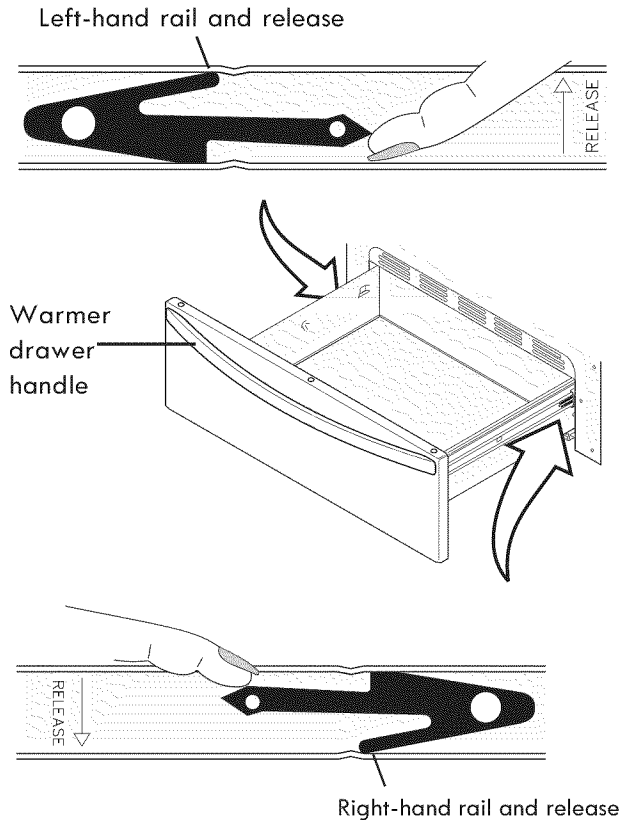

Figure 39: Removing the warmer drawer
3. On left warmer drawer rail, locate black release lever and press up with finger while pulling out slightly on the oven drawer handle. On right warmer drawer rail, locate black release lever and press down with finger while pulling out slightly on the warmer drawer handle (See Figure 39).